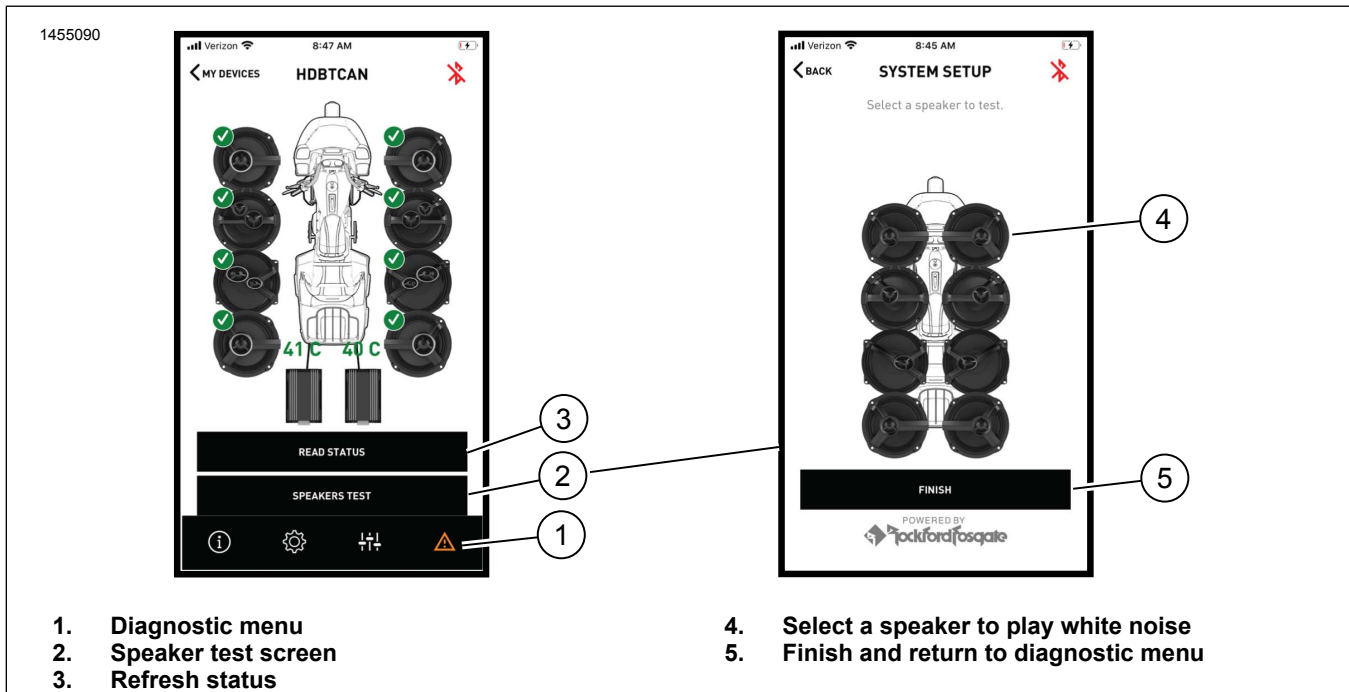

Figure 11. Diagnostic Menu
5. See Figure 11. Diagnostic menu screen.
- Diagnostic menu icon (1) displays sound system status.
- Open the speaker testing screen (2).
- Refreshes speaker and amplifier status (3) after component repair.
- Select speaker for white noise (4) test and functionality.
- Return to diagnostic menu screen (5).